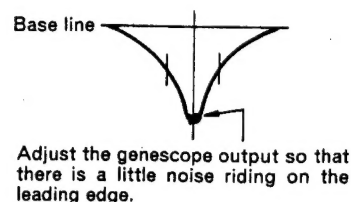

Fig. 3
4. Feed in a weak signal from the genescope. Adjust T151 and T204 for maximum gain and the waveform of Figure 3.